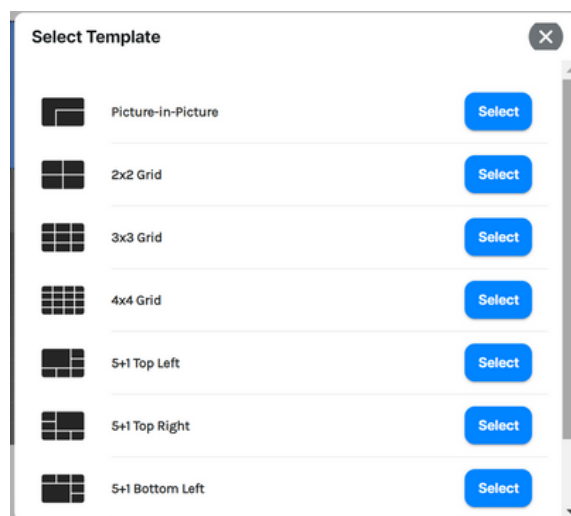

Figure 47
4. By clicking on the “USE TEMPLATE” button, a pop-up window will appear where the user will have the option to select a Multiview layout from several suggested templates. Figure 47